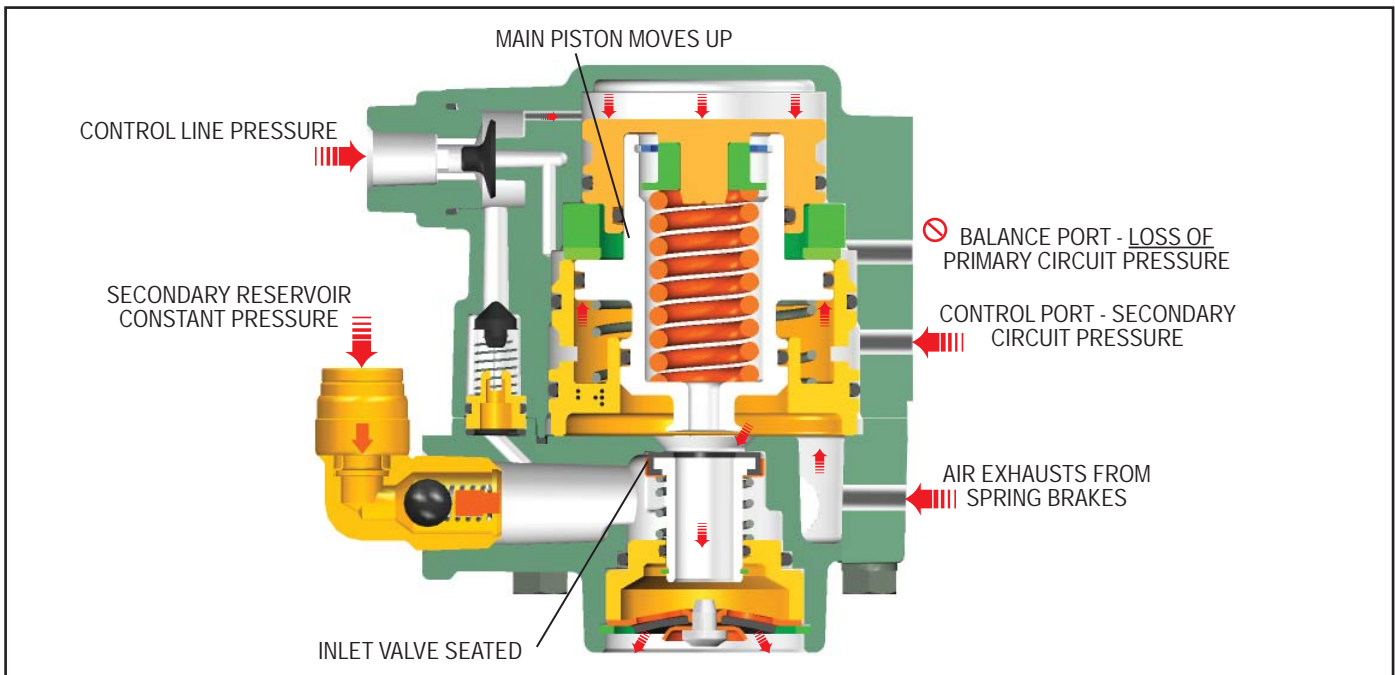

FIGURE 9 - SERVICE APPLICATION LOSS OF PRIMARY CIRCUIT
**SERVICE APPLICATION WITH LOSS OF AIR IN PRIMARY CIRCUIT (FIGURE 9)**